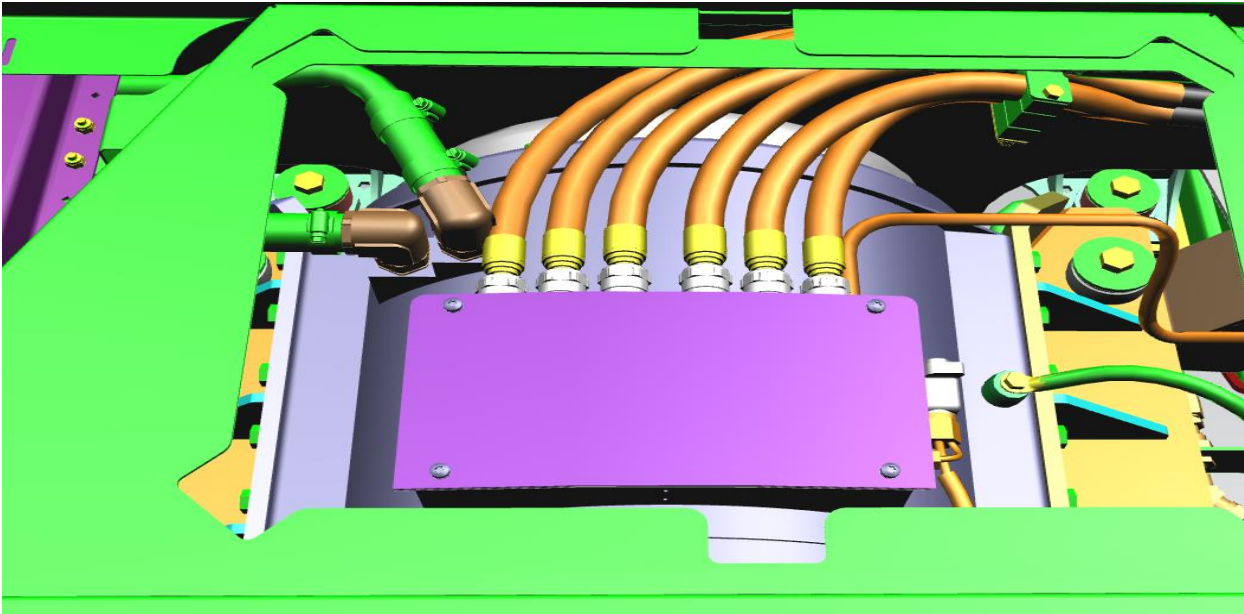

Figure 4: PEM Motor Junction Box Location
17. Locate and remove the access panel to the PEM Motor. The access panel is located on the interior floor at the rear of the bus shown in Figure 4.